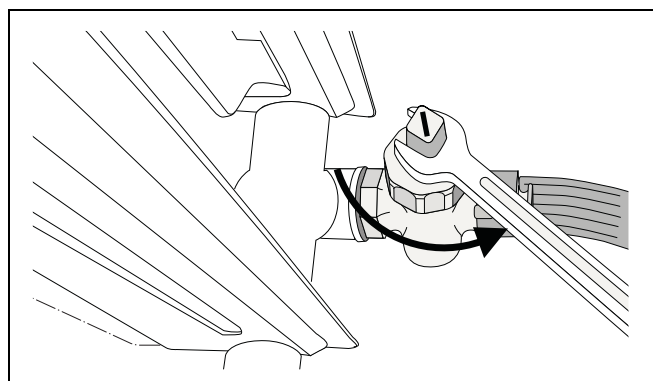

fig. 23 Draining the heating system
- Drain the heating water at the lowest point of the heating system, using the drain cock or the radiator (fig. 23). The (automatic) air vent at the highest point of the heating system/radiator (see fig. 14, page 14) must be open then.